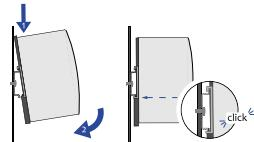

Fig. 1-1: Mounting
- ➋ Install the device onto a DIN rail according to EN 60715, see Fig. 1-1.